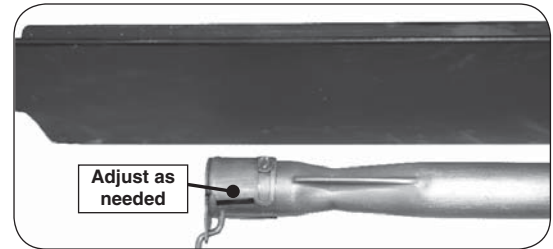

Fig. 48-3 Adjust air shutter
6. Adjust the air shutter (by hand) as needed (see Fig. 48-3).